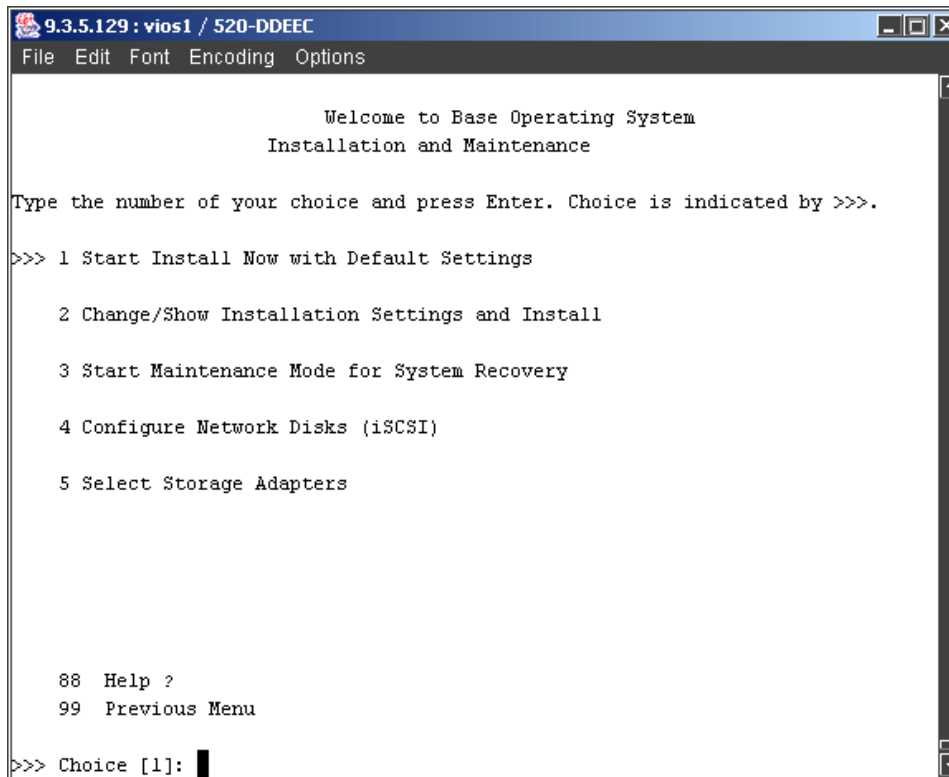

Figure 5-2 Installation and Maintenance main menu
15. The migration proceeds and the main menu as shown in Figure 5-2 will come up: